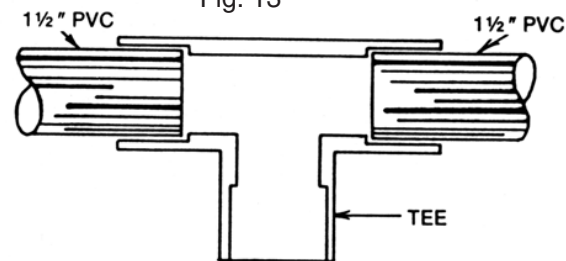

Fig. 14
2. Slide the pipe into the tee. These connections do not need to be cemented, but should be pushed tightly together (see Fig. 14).